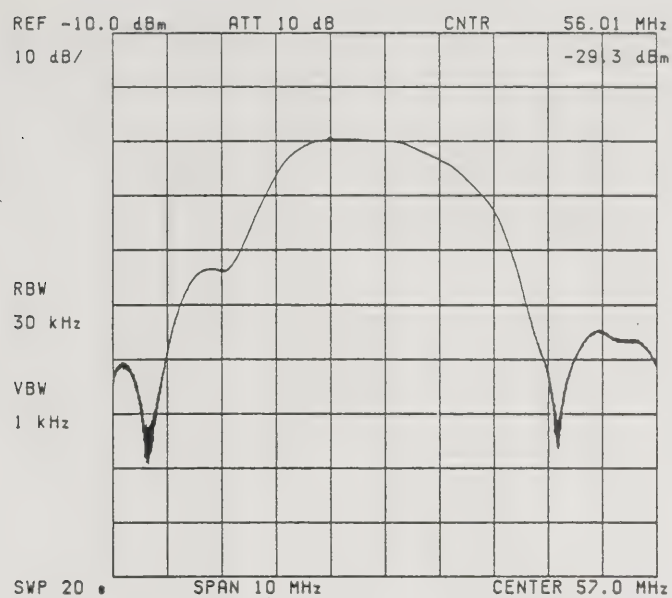

Fig. 6-8 Amplitude response of a filter
- (1) Set up the center frequency, sweep span, input condition, and other necessary parameters.
- (2) Disconnect the DUT from the cables and connect a shorting device as shown in Figure 6-8.
- (3) Press the kHz (G.D. OFFSET) key to obtain a flat phase response. If fine adjustment is required, press the kHz key again to select the G.D. OFFSET FINE mode and perform fine adjustment.
- (4) Press the MHz (G.D. OFFSET) key to position the phase response trace to the center of the vertical scale.
- (5) Connect the DUT instead of the shorting device, then press the PHASE key; the phase response of the DUT (filter) will be displayed. Display resolution can be increased with the DATA knob or DATA step keys (80, 40, 20, 8, ... 0.2 deg/div.). Figures 6-8 and 6-9 show respectively the amplitude and phase responses of the same filter.